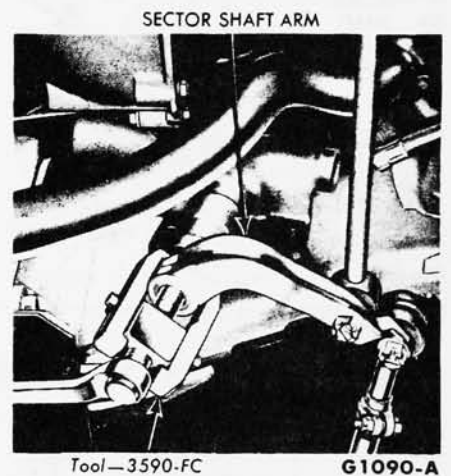

FIG. 26—Sector Shaft Arm Removal
3. Raise the car and disconnect the sector shaft (pitman) arm from the sector shaft, using the tool shown in Fig. 26.